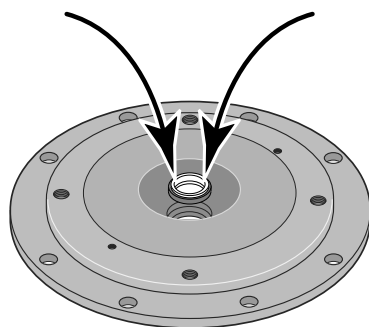

Figure 22 – Press in New Seal
- Step 3. Put clean cardboard washer on seal face. With thumb pressure, press ceramic seal half firmly and squarely into seal cavity in copper heat sink (See Figure 22). Polished face of ceramic seat is up. If seal will not seat correctly, remove, placing seal **face up** on bench. Reclean cavity. Seal should now seat correctly.